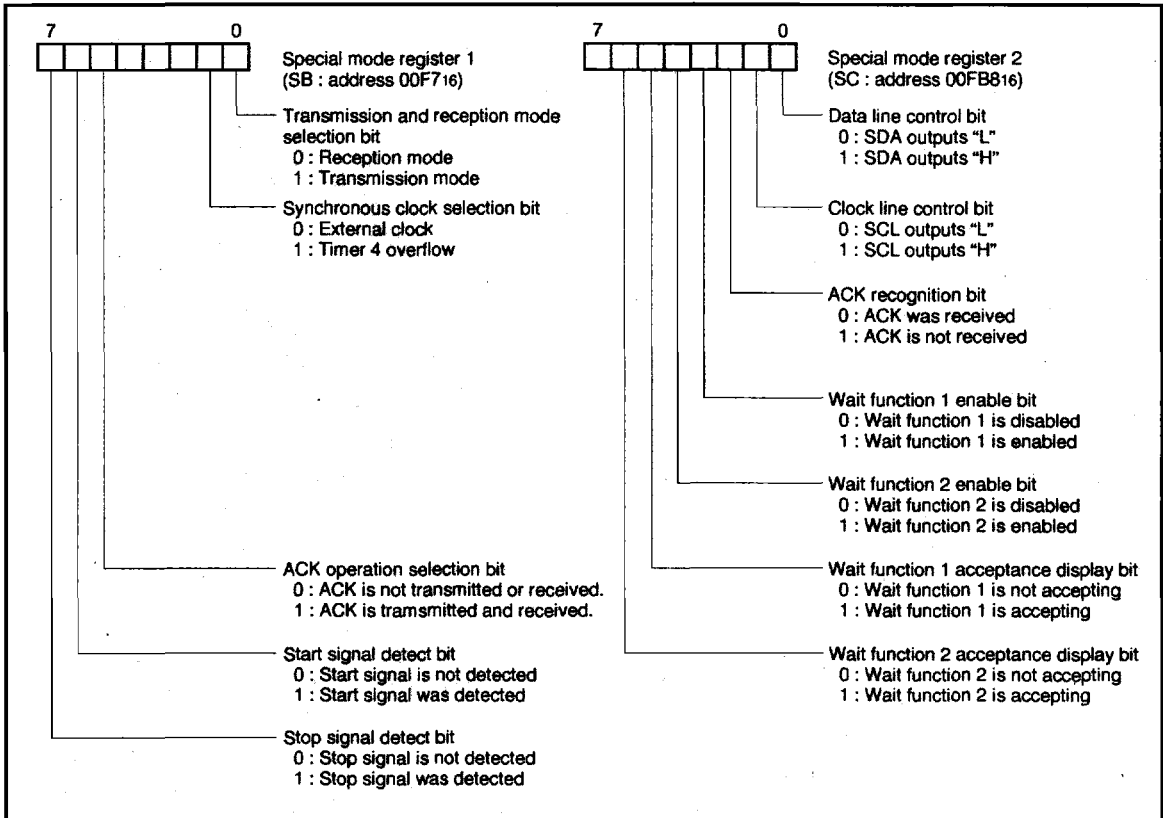

Fig. 18 Structure of special mode registers 1 and 2
(1) Master Transmission
- ① To generate an interrupt at the end of transmission, set bit 3 of serial I/O mode register 2 (address 00CE16) to "1" so as to special serial I/O interrupt is selected.
- ② Then set bit 1 of interrupt control register 2 (address 00FF16) to "1" so as to special serial I/O interrupt is enabled. Clear the interrupt disable flag 1 to, "0" by using the CLI instruction.
- ③ The output signals of master transmission SDA and SCL are output from ports P34 and P35. Set all bits (bits 4 and 5) corresponding to P34 and P35 of the port P3 register (address 00C616) and the port P3 direction register (address 00C716) to "1".
- ④ Set the transmission clock. The transmission clock uses the overflow signal of timer 4. Set appropriate value in timer 4 and timer 34 mode register. (For instance, if f (XIN) /2 is selected as the clock source of timer 4 and 9 is set in timer 4 when f (XIN) is 4MHz, the master transmission clock frequency is 100kHz.)
- ⑤ Set contents of the special mode register 2 (address 00F816). (Usually, the value is "0316".)
- ⑥ Set the bits 3 and 4 of serial I/O mode register 1 (address 00CD16) so as the port P34 and P35 is specified to SDA and SCL. After that set the special mode register 1 (address 00F716). Figure 18 shows the structure of special mode registers 1 and 2. Initial setting is completed by the above procedure.
- ⑦ Clear bits 0 and 1 of special mode register 2 (to "0") to make both SDA and SCL output to "L". This is for arbitration. Immediately after this, write data to be transmitted in the special serial I/O register